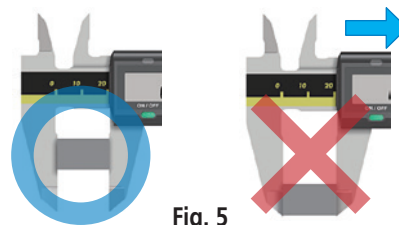

Fig. 5
1. Make sure to use consistent thumb placement and apply constant force during measurement, and measure an object as close as possible to the root of the jaws. It is better to avoid measurement with the tip of the jaws to avoid Abbe error. (**Fig. 5**)